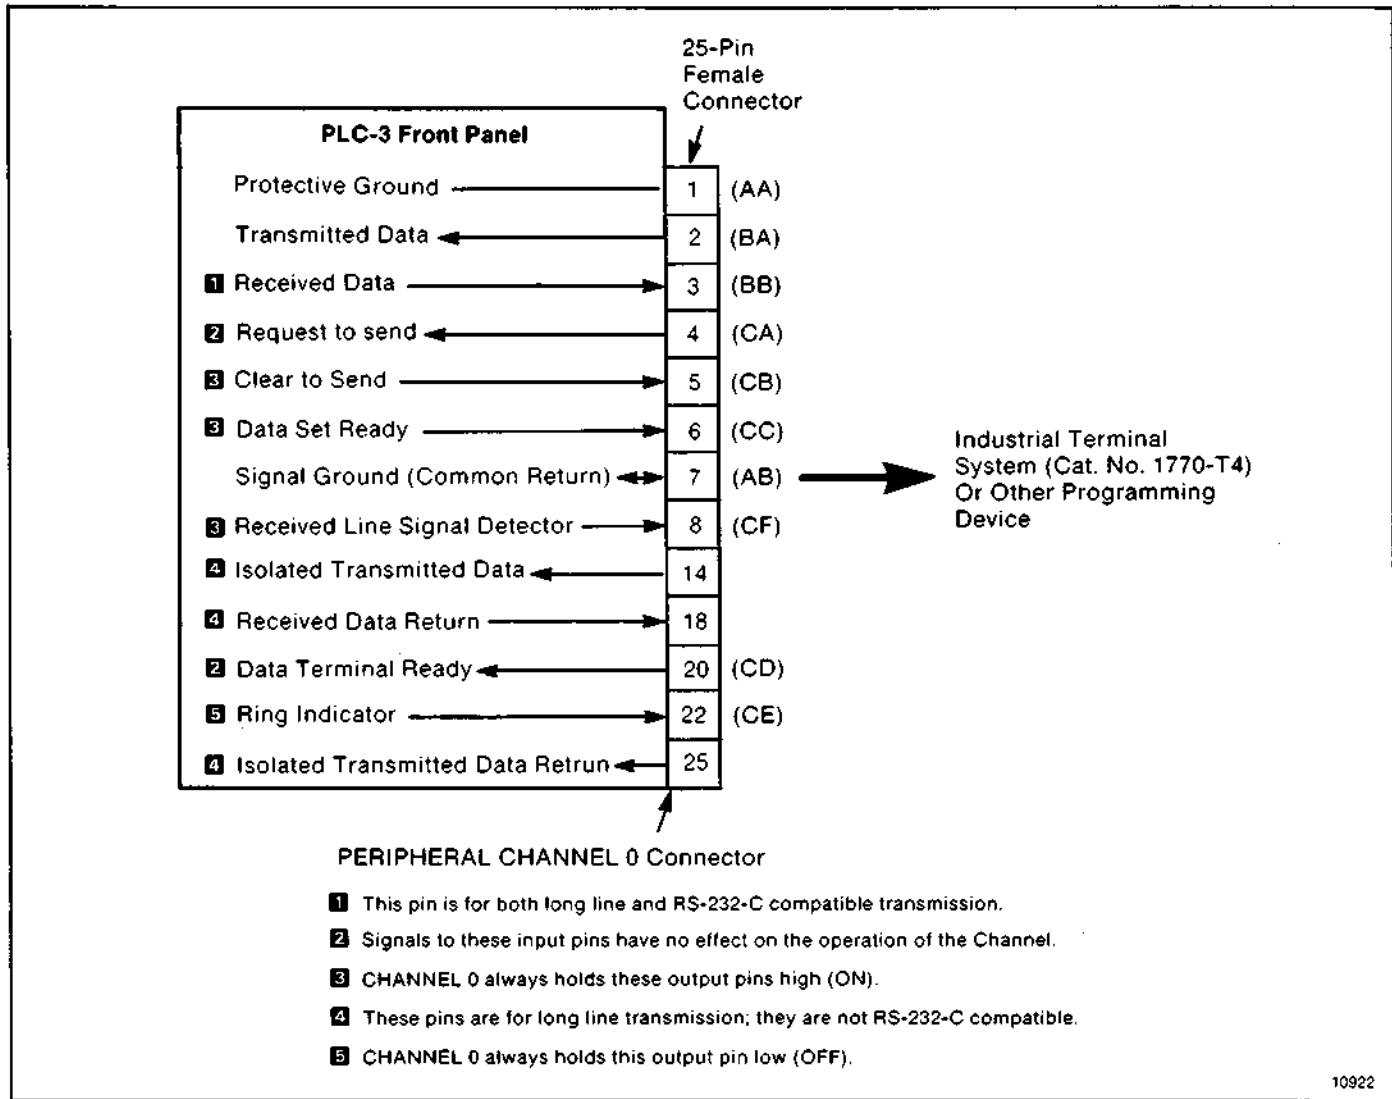

Figure 4.2 — Pin Assignments for the PERIPHERAL CHANNEL 0 Connector
4.0.1 Peripheral Channel 0 A 25-pin D-shell connector (labeled PERIPHERAL CHANNEL 0) on the front panel provides connection for a peripheral communication channel (figure 4.2). An Industrial Terminal System (cat. no. 1770-T4) can be connected to communicate through this channel (5000 feet maximum cable length).